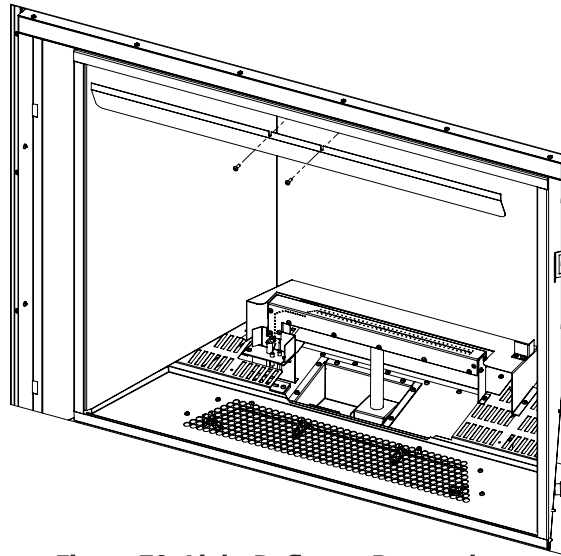

Figure 79: Light Deflector Removal
- Step 2.** Remove light deflector by loosening two retaining T-20 screws (see Figure 79).